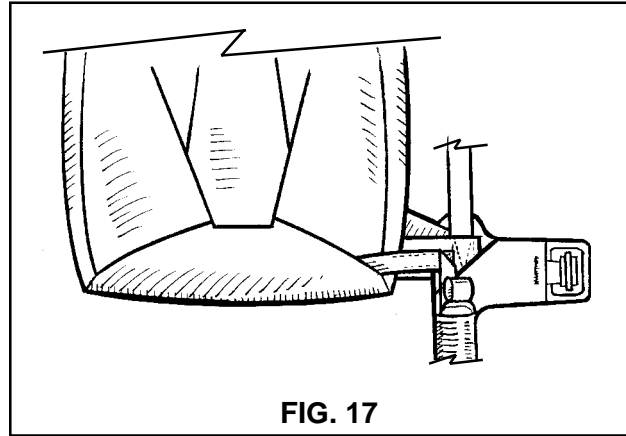

FIG. 17
18. Stuff the rolled pilot chute completely into the pouch, making sure that the handle sticks out the top for an easy grip (**FIG. 17**).